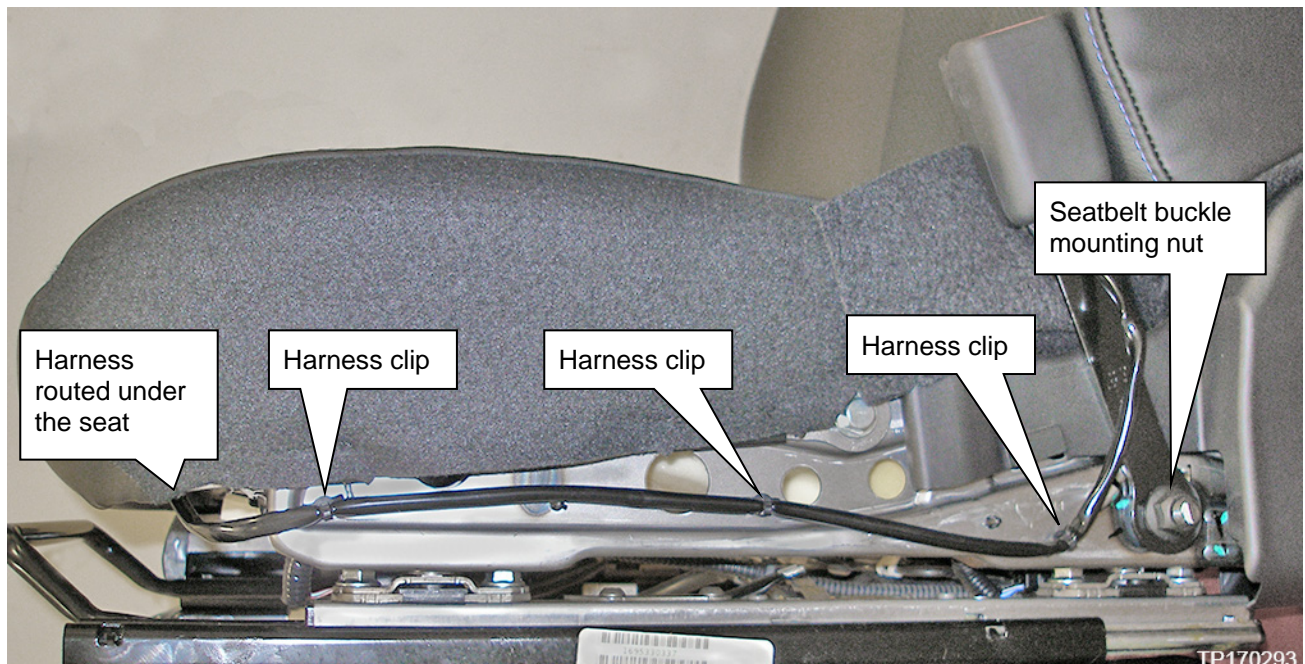

Figure 2
- Buckle is held on with one nut (see Figure 2).
- Remove the buckle harness clips shown in Figures 2 and 3.
- Install the new buckle harness clips into the same location as the old clips (see Figures 2 and 3).